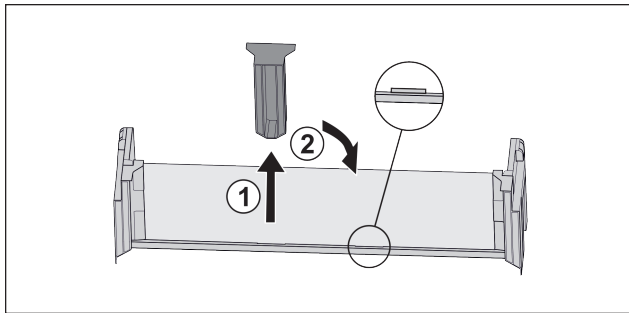

Fig. 54 *
- Pull off the middle holder Fig. 54 (1).*
- Insert the middle holder in the second position Fig. 54 (2).*